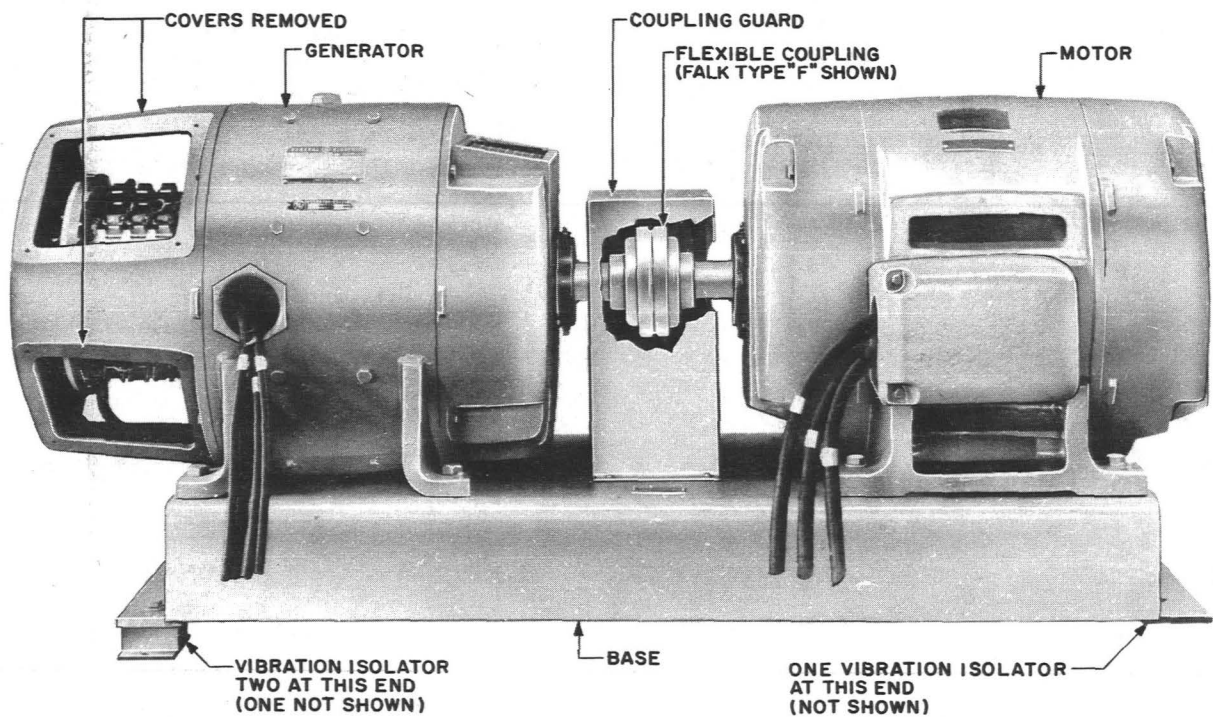

Fig. 1 - Motor-Generator — KS-15839, L5 Shown
1.10 These sets have separate motors and generators joined by either a Zurn flexible coupling or Falk flexible coupling type F. Machines, couplings, and brush rigging are shown in Fig. 1 to 5, inclusive.